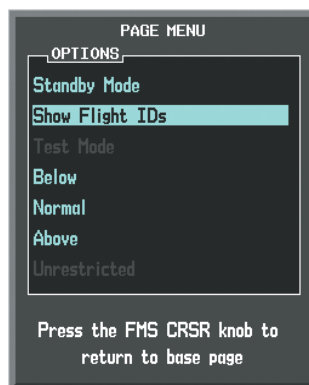

Figure 6-160 Traffic Map Page Menu
- 2) Turn the small **FMS** Knob to select 'Show Flight IDs' or 'Hide Flight IDs' (choice dependent on current state) (Figure 6-160).